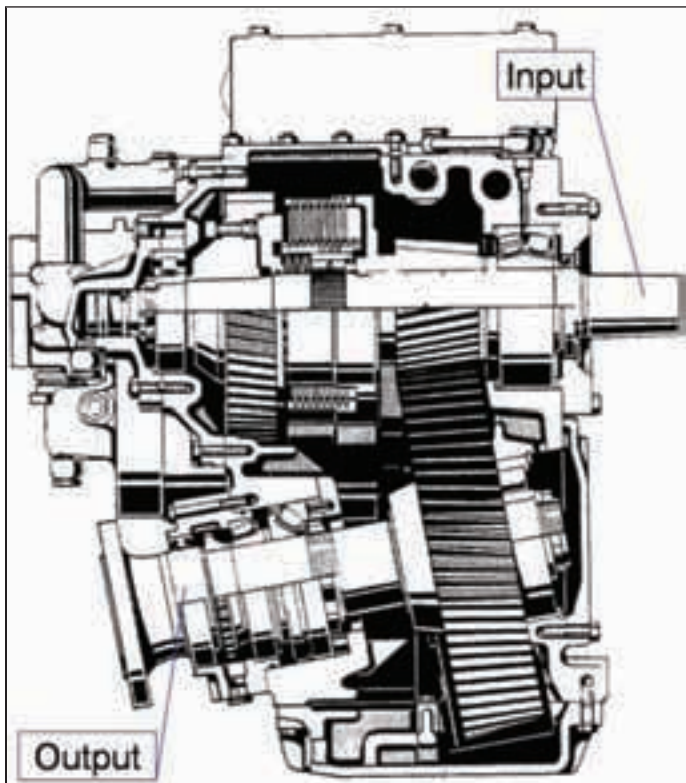

Figure 1—Reversing marine transmission with offset and down angle output shaft ($i = 1.2\text{--}2.9$; max. 1,350 kW).
3. POLCA cards for each pair of workcenters stay with a job during its journey through both workcenters in the pair before they loop back to the first workcenter in the pair. Since most workcenters will belong to more than one pair of workcenters, there will be multiple loops of cards that overlap in each workcenter (see Figure 1).
Figure 1—The POLCA system uses production cards circulating between overlapping pairs of workcenters to make most efficient use of production equipment in companies manufacturing custom-engineered and high-variety products.
- Marine transmissions with down-angle output shafts (Refs. 1 and 3, Fig. 1); and